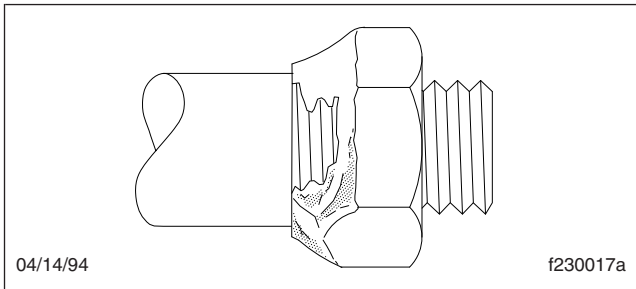

Fig. 4, Damaged Wheel Stud Nut
4. Inspect the wheel nuts on disc wheel installations, or the rim nuts on spoke-wheel installations. Damaged nuts are usually caused by inadequate tightening and must be replaced with new ones. See Fig. 4.